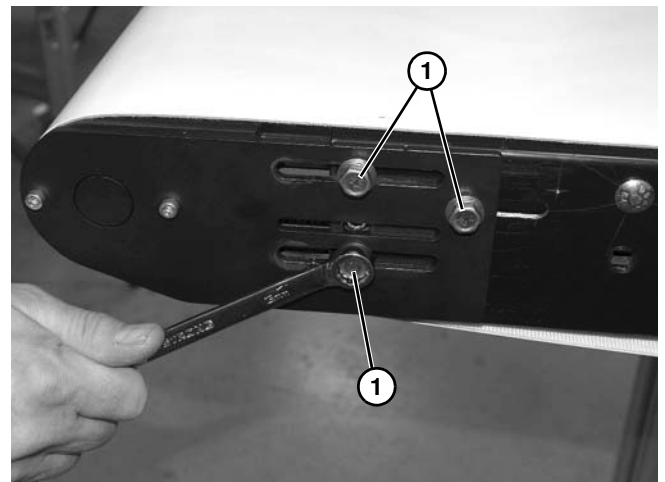

Figure 92
1. On tension end of conveyor, loosen the three screws (**Figure 92, item 1**) on each side of conveyor.
3. After adjusting proper tensioning, tighten three screws (**Figure 92, item 1**) on both sides of conveyor to 16.5 Nm (146 in lbs).